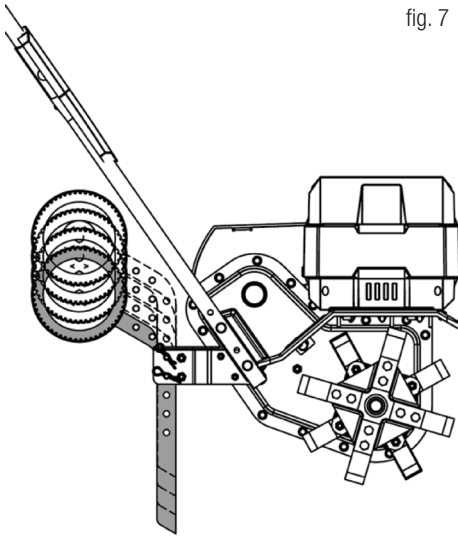

fig. 7
2. The support wheels can be rotated, so you can use the adjustable draft, please adjust the depth before working. fig. 7.
To place the wheels in the working position, remove the pins and pins and turn them over as shown in fig. 7. Then reposition the bolts at the desired working height and secure with the pins.